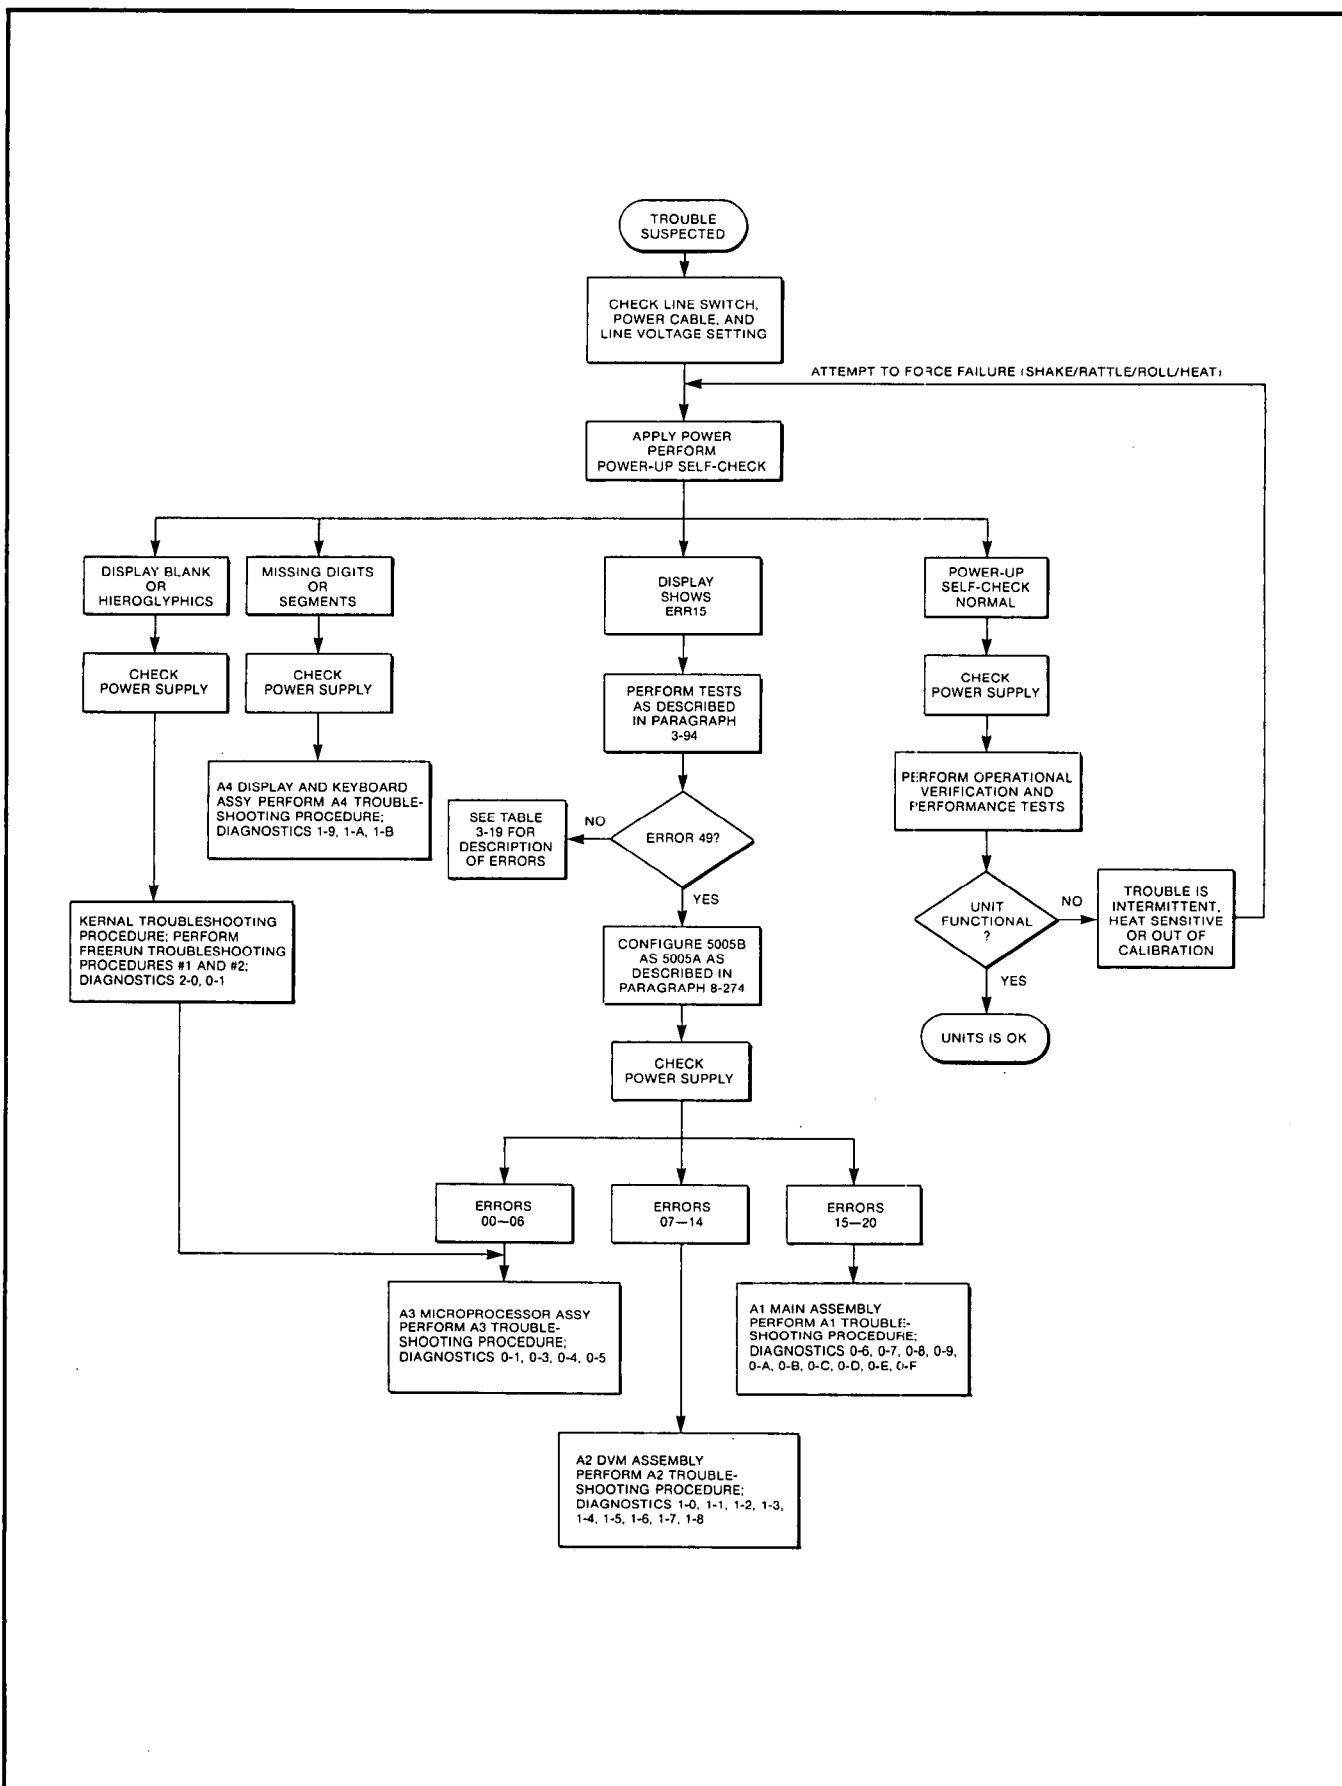

Figure 8-12. Overall Troubleshooting Flowchart
8-283. The following procedure describes the recommended preliminary troubleshooting, and references the Overall Troubleshooting Flowchart in *Figure 8-12*.
- f. Display response (2.) is an indication that the kernel is functioning properly and that, in general, only the circuitry associated with the indicated error message need be checked. Refer to the Overall Troubleshooting Flowchart, *Figure 8-12*, for specific assembly procedures.